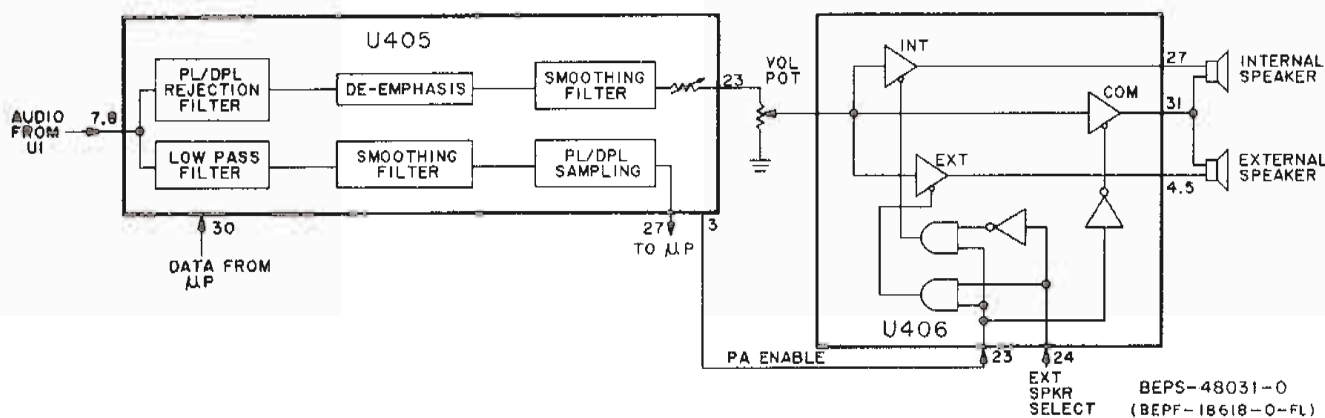

Figure 8. Receiver Audio Circuitry
h. Receiver Audio Circuitry (See Figure 8)